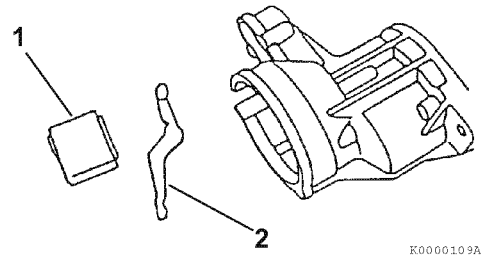

Figure 11-8
8. Disassemble the dust cover **(Figure 11-8, (3))** and shift the lever **(Figure 11-8, (4))** from the gear housing.